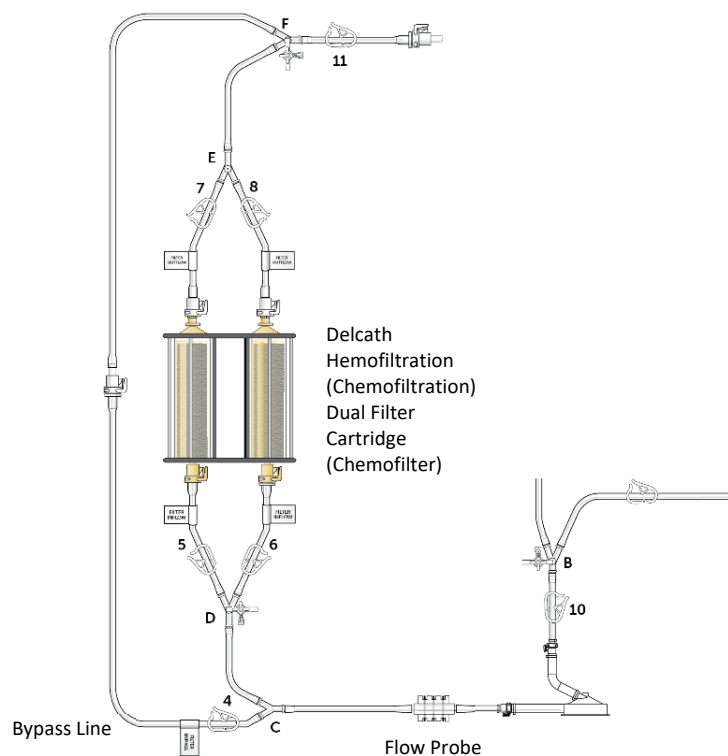

Figure 16
- (a) Close clamp 4 and open filter inlet clamps (5, 6) then filter outlet clamps (7, 8) and circuit outlet clamp (11) (see Figure 16) and adjust the flow of heparinized normal saline into the filter to a rate of approx. 0.5 liters per minute. Note: Hemostats (forceps) are required to adjust flow rate if using gravity.